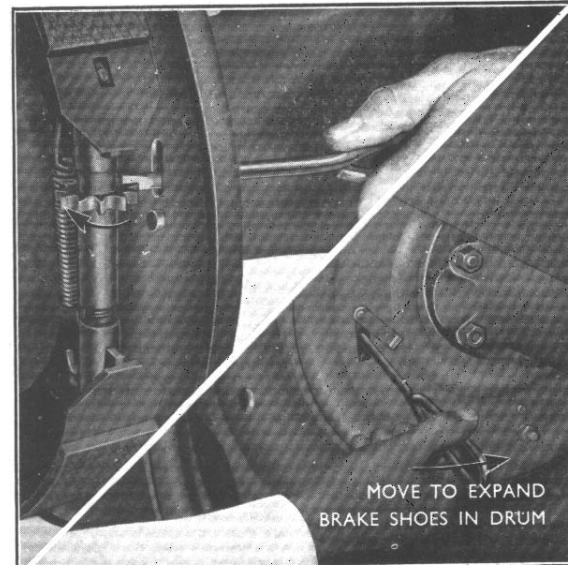

Fig. 3
2. Slide back the plate covering the adjuster aperture at the rear of the brake plate and, using a screwdriver, turn the notched adjuster wheel towards the rear of the tractor to expand the brake shoe in the drums (see Fig. 3).